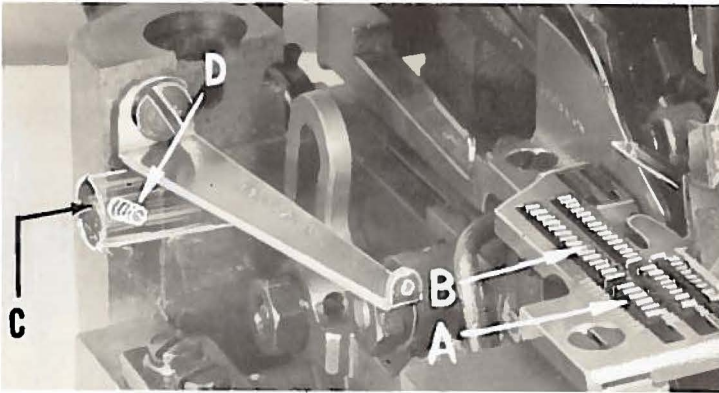

Fig. 12
Now assemble differential feed dog (A, Fig. 12) if not already on machine. Assemble main feed dog (B) and set both feeds so the top surfaces of the teeth all lie in the same plane. This can be checked by sighting across the teeth with a straight edge. Now assemble throat plate. Feed dogs should now be leveled with throat plate surface by rotating feed tilting adjusting pin (C). This pin raises or lowers the back end of both feed bars at the same time.